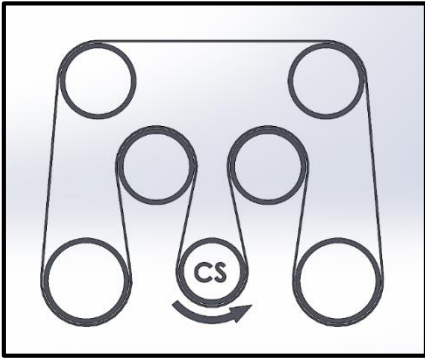

Figure 14 Drive Belt Layout
19. Once again insert the square drive of the ½" drive breaker bar into the square opening of the tensioner arm, as shown [Figure 14]. Ensure the wrench's drive is fully seated into the tensioner before attempting to relieve tension.